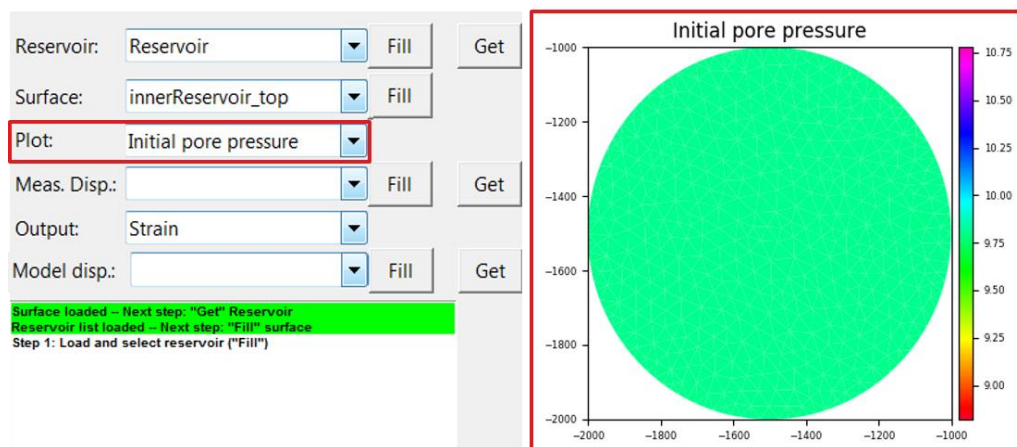

Figure 10 Visualize the top reservoir surface and its properties (depth, thickness, Poisson's ratio, Young's modulus, initial pore pressure)
- iii. Load (**Get**) the reservoir volume and its selected properties (**step 3** in Figure 9). The reservoir geometry and properties are plotted as a function of x, y in the IT (Figure 10).